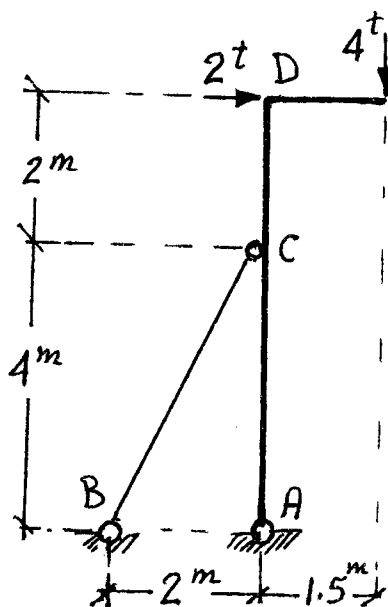

Fig. 2
2. For the structure shown in Fig.2, draw the internal force diagrams.